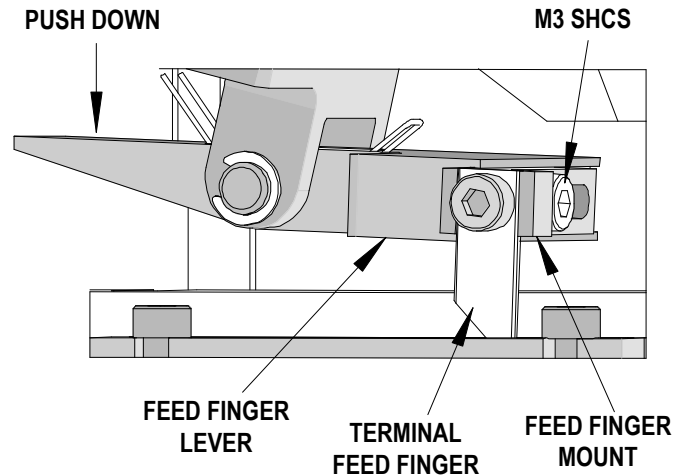

Figure 2-28
3. Using a 2.5mm hex wrench, loosen the M3 SHCS located on the feed finger mount. While holding the feed finger lever down slightly, slide the feed finger to the desired position. See Figure 2-28.